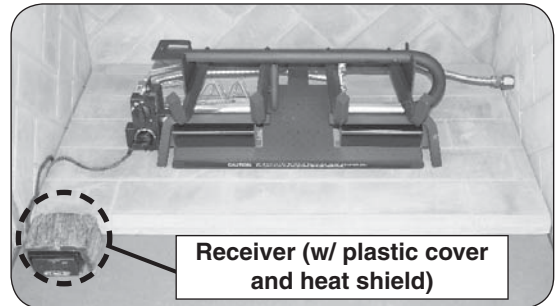

Fig. 14-4 Place remote receiver
3. **Place the remote receiver at the front left corner of the fireplace. Place as far from the burner system as possible.** See Fig. 14-4.
4. Place the plastic cover over the remote receiver with the open side facing forward to allow access to the receiver controls. Then place the decorative heat shield. See Fig. 14-4.